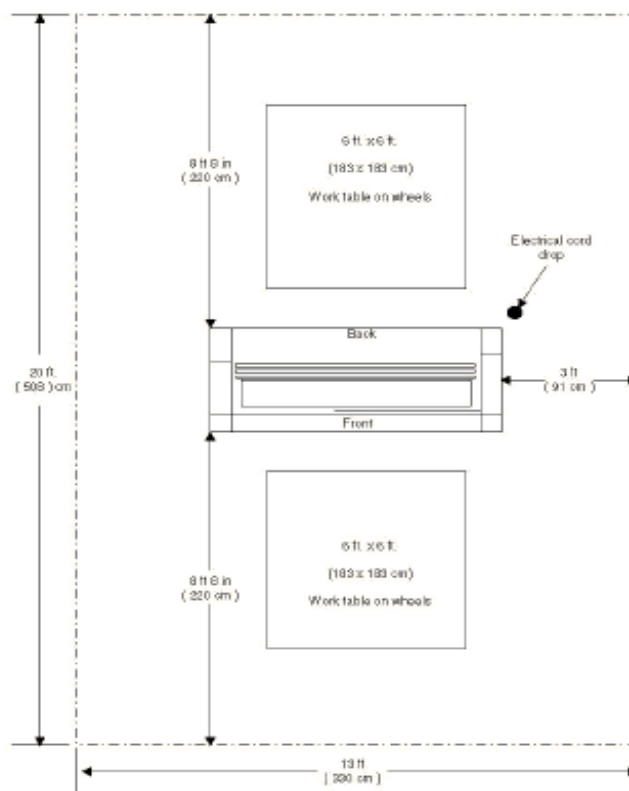

Fig. 2
- A work area must be established that allows for operation in both the front and rear of the laminator and provides space for efficient material flow. (Figure 2)